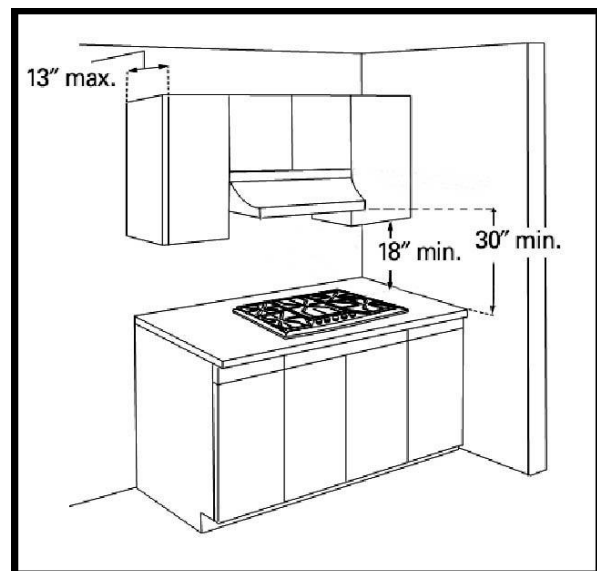

Figure 6
- Avoid placing cabinetry directly above cooktop when possible. If cabinetry is used above cooking surface, use cabinets no more than 13" deep (see Figure 6).